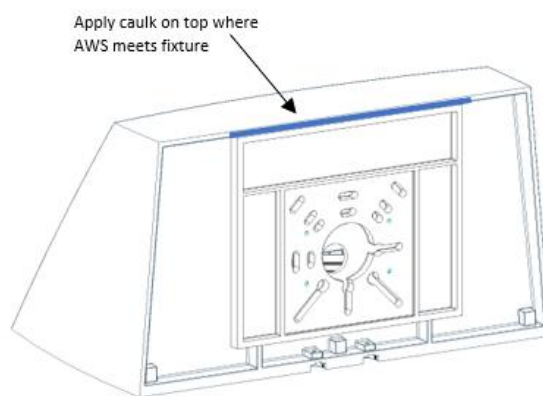

Figure 19
5. Proceed with step 3 of the standard instructions. Ensure to caulk the top where the AWS and the fixture connect (Figure 19).